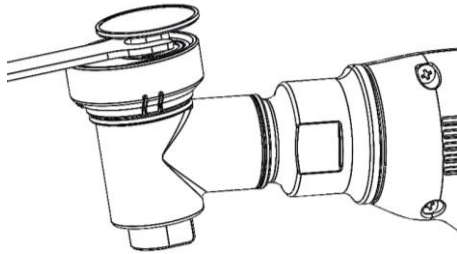
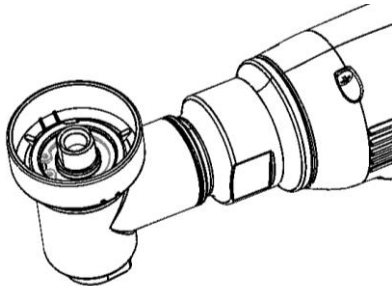

Fig.5
Fig.6
⚠ WARNING: Do not force the screw it could break. The maximum allowed screw force is 2Nm. For the screw use only a *clockwise* direction when the tool is position as show in a Fig. 5 and Fig. 6 (for unscrew use counterclockwise direction)
3.1) Mount the disc pad by screwing it in the red/blue shaft (orbital version Fig.5). Follow the steps:
- 3.2) Mount the disc pad by screwing it in a green shaft (rotary version Fig.6). Follow the steps: